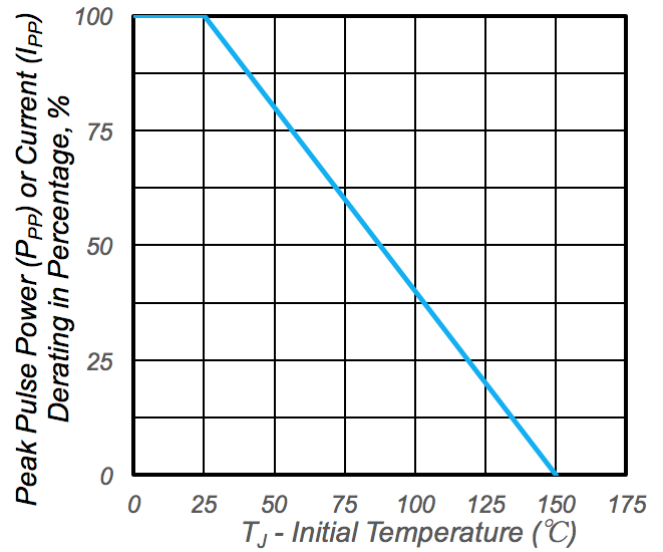
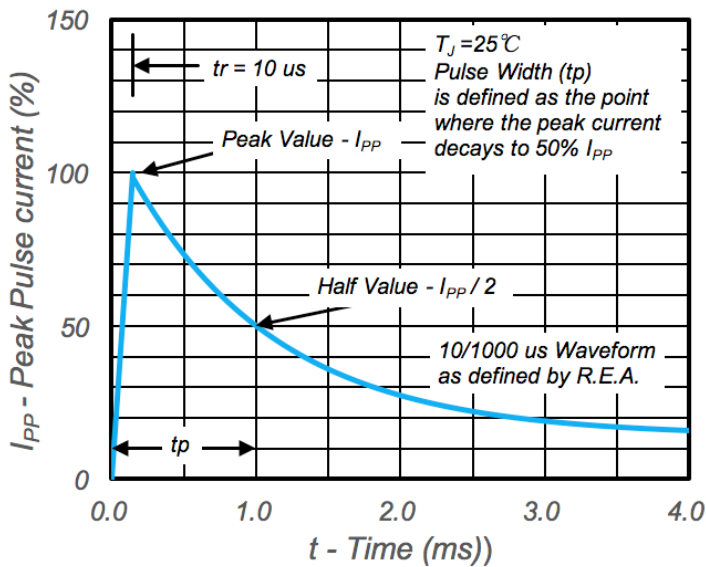

Fig.2 - Pulse Derating Curve
Fig.3 - Pulse Waveform
1. Non-repetitive current pulse, per Fig.3 and derated above $T_A=25^\circ\text{C}$ per Fig.2.